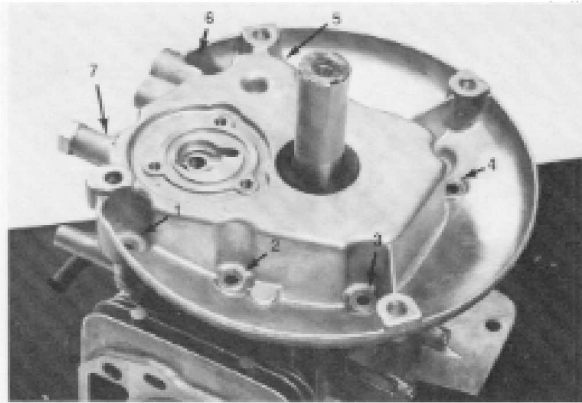

Figure 4-21
1. Remove the seven screws retaining the sump assembly to the block. When the sump is pulled off the crankshaft, take care not to cut the seal. See Fig. 4-21.